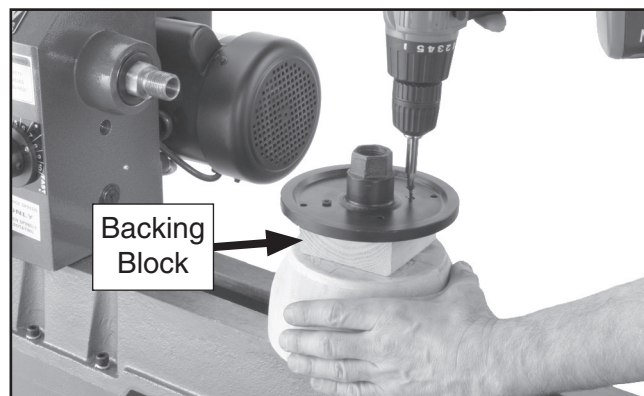

Figure 26. Example of mounting faceplate to a backing block.
1. Make the backing block (**Figure 26**) from a piece of scrap wood that is flat on both sides.